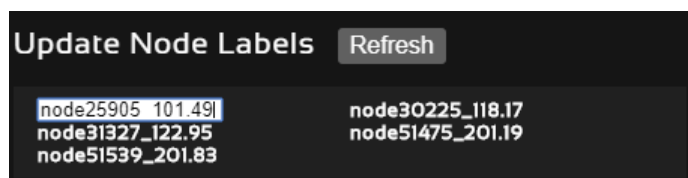

Figure 48 Custom Node Naming
- **Update Node Labels** – Naming each node in the network is as simple as double-clicking on the node name and typing in a new name in the update node label section of the control panel as shown in **Figure 48 Custom Node Naming**. Once this is done, the user will need to hit enter to